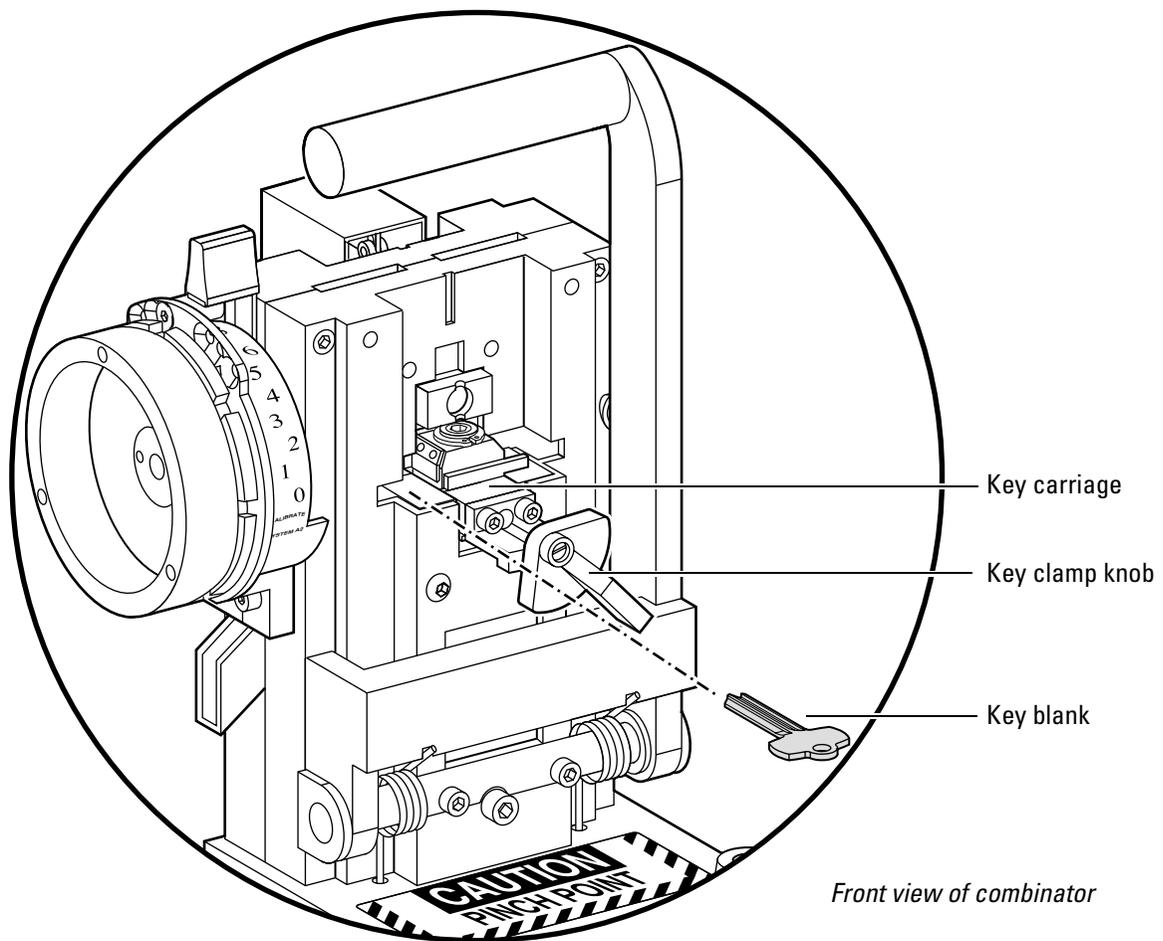

Figure 3.21 Loading a key
2. Raise the key clamp spring by turning the key clamp knob counterclockwise, as shown in Figure 3.21 (for left-handed combinators, turn the key clamp knob clockwise).